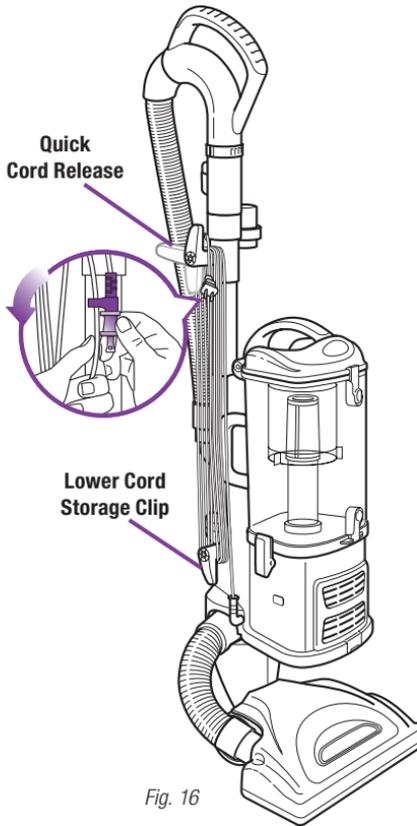

Fig. 16
- 2 Rotate the upper quick cord release to its upright position and coil the power cord loosely around the two clips. Clip the plug onto the cord to secure. (**Fig. 16**)